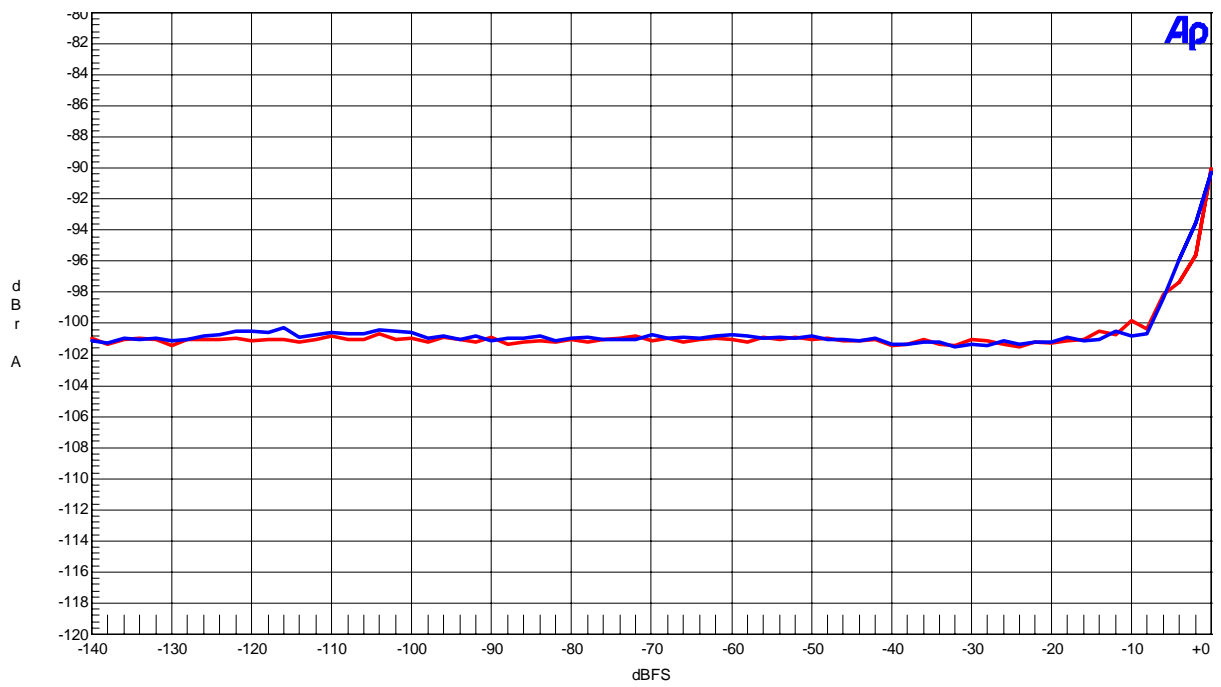

Figure 22. THD+N vs Input Level (Input Frequency=1kHz)
- Figure 22. THD+N vs Input Level (Input Frequency =1kHz)